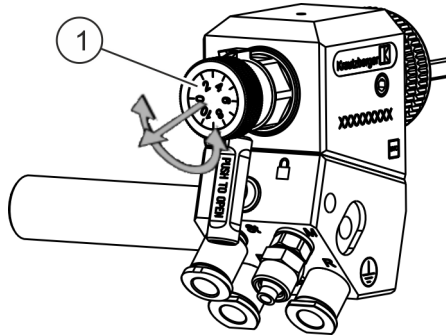

Fig. 9: Adjusting the needle stroke
1. ➞ Pull out the needle stroke adjustment screw (Fig. 9/1) to unfasten it.
2. ➞ Adjust the needle stroke by turning the needle stroke adjustment screw (Fig. 9/1).
3. ➞ Push in the needle stroke adjustment screw (Fig. 9/1) to fasten it again.